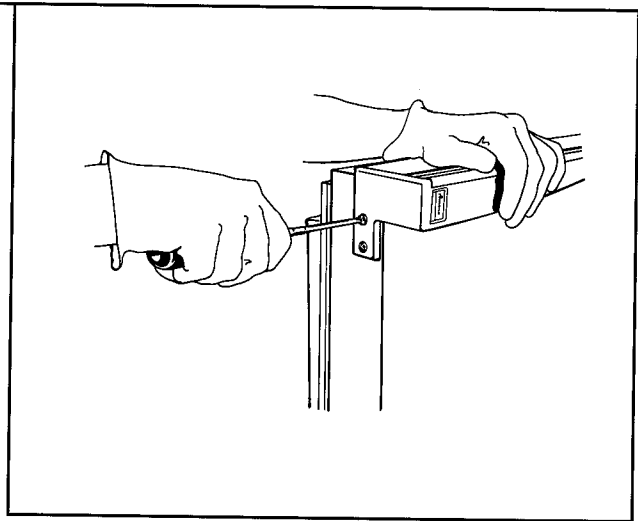

Figure 44
- c. Using a Phillips screwdriver, remove handle, remove handle screws on bottom side of each handle on both doors. See Figure 44.